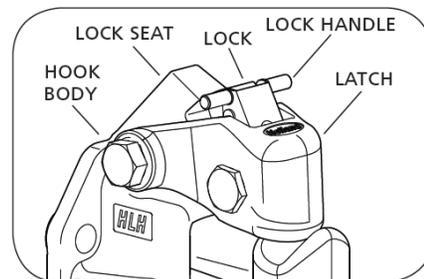

Figure 6.9
- ✓ Open the latch by rotating the latch assembly up toward the vehicle until the latch is in its most upright position, then release the lock handle. (Figure 6.9 and 6.10).